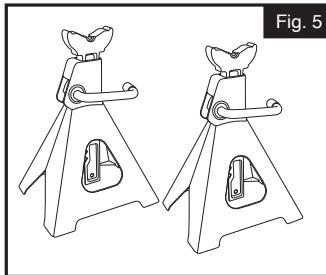

Fig. 5
9. ALWAYS support load with jack stands. See Figure 5. Place jack stands of appropriate capacity (not included) beneath the vehicle at locations recommended by the vehicle manufacturer. DO NOT get under the vehicle without jack stands. Jacks are not designed to maintain heavy loads for long periods of time. DO NOT attempt to put jack stands simultaneously under both ends of vehicle or under one side of vehicle.